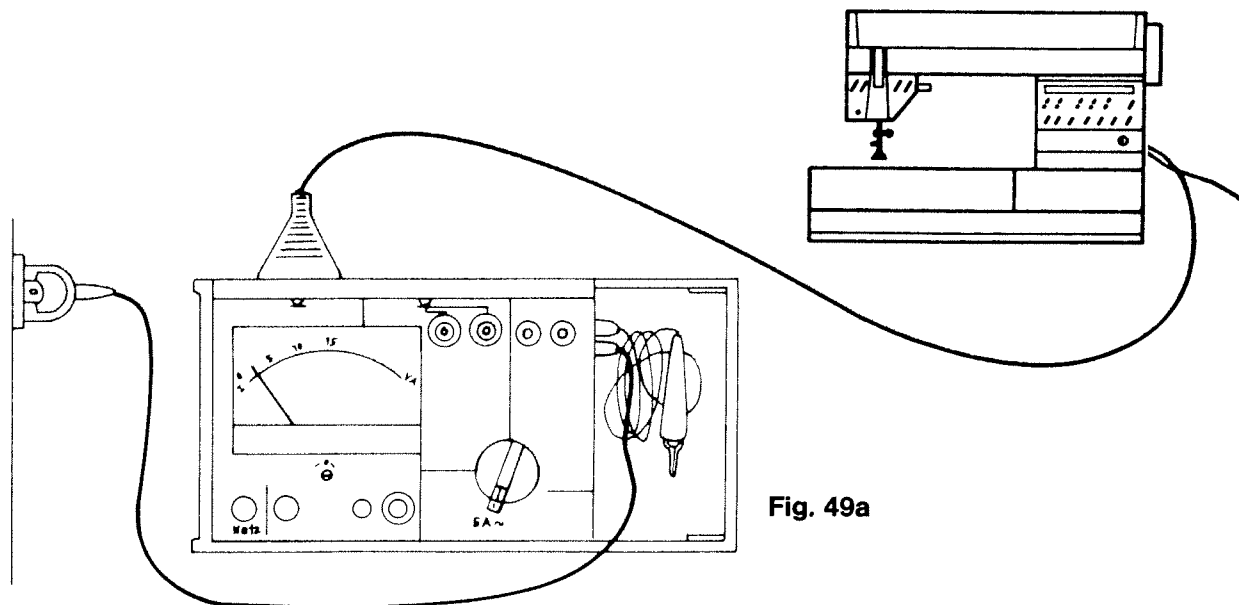

Fig. 49a
- Set switch at 5 A (scale I) (see Fig. 49a).